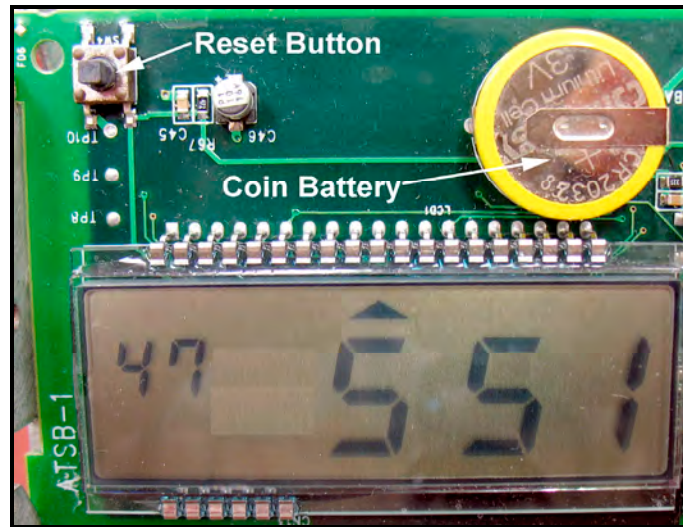

Figure 6-9. Reset Button Location.
**NOTE:** This operation will reboot the clock, which means that you will automatically be logged off the clock and the Login screen will appear. The clock name will be reset to the default name (see Figure 3-4), and the clock will temporarily disappear from the list of Bonjour devices and then reappear with the default name. However, it is recommended to use the "Reset" button to clear an error message (see Figure 6-9).
**NOTE:** An error message can be cleared by removing the cover and pressing the "Reset" button (see Figure 6-9). The Reset button will NOT clear the configuration and/or transaction information (i.e., DST & print line styles) stored in the clock flash memory. Conversely, it is not recommended to clear an error by using the Reset command from the clock web interface as this could reset the clock configuration.